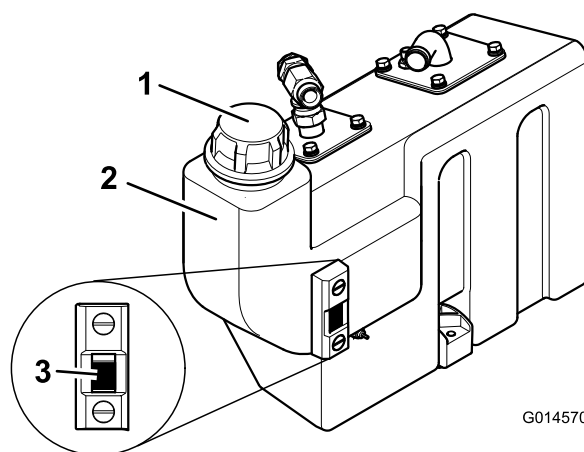

Figure 26
- Mobil EAL EnviroSyn H 46 (US)
3. If additional hydraulic fluid is needed, clean the area around the filler neck and the cap of the hydraulic tank (Figure 26) and remove the cap.